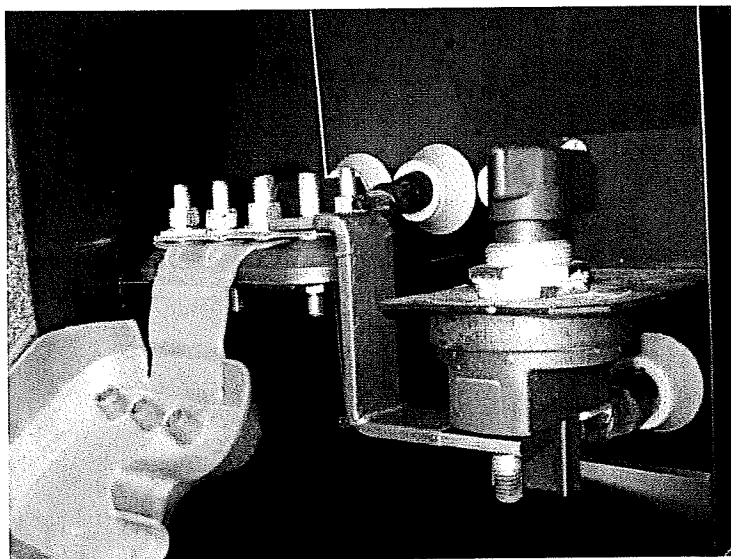

Figure 9
18. Tighten the Disconnect Switch mount bracket bolts. **Figure 9**